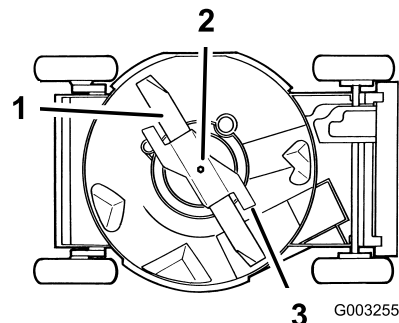

Figure 30
4. Tip the mower onto its **right** side (Figure 30).
Grasp the end of the blade using a rag or a thickly padded glove. Remove the blade bolt, the lock washer, the accelerator, and the blade (Figure 30).